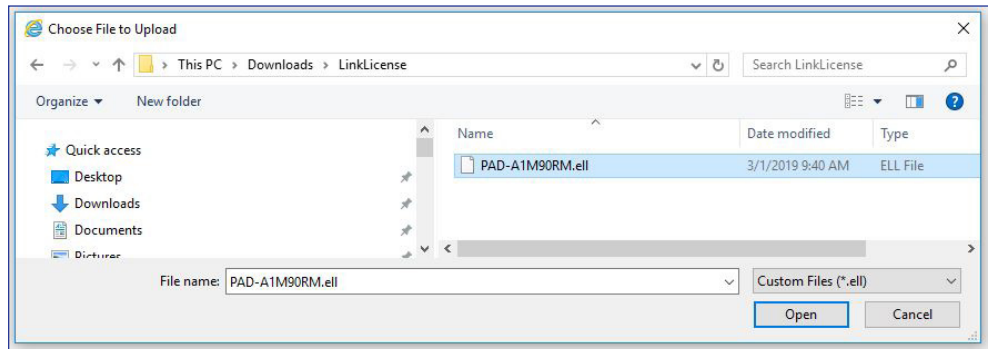

Figure 36. Explorer Window
2. This opens an Explorer window (see figure 36). Browse to the location of the LinkLicense and select the LinkLicense file with .ell file extensions.